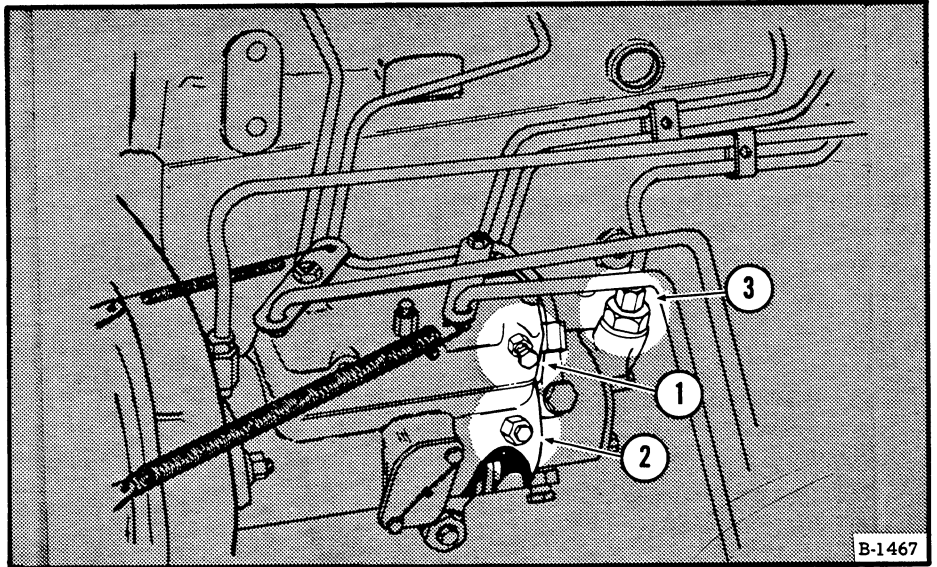
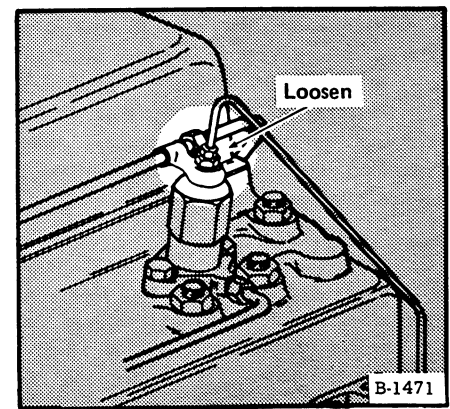

Fig. 1-27 Removing Air From Injection Pump
Fig. 1-30 Removing Air From Injectors
- (1) Loosen vent screw located near top of governor control lever (Fig. 1-27, Item 1).
- (2) Loosen vent screw located on the side of fuel pump (Fig. 1-27, Item 2).
- b. Fuel pump vent screw (Fig. 1-27, Item 2).
- c. Governor vent screw (Fig. 1-27, Item 1).
- (6) Loosen fitting at fuel injection pump inlet (Fig. 1-27, Item 3).
- (7) Operate priming lever again until no air bubbles can be seen coming from threads.
- (8) Retighten fitting at injection pump inlet.
- (9) Loosen fitting on injector end of each high pressure fuel line (four places) (Fig. 1-30).
- (10) Set throttle to full open position and operate starter until no air bubbles flow from loosened fittings.
- (11) Retighten fitting. Engine is now ready to start.